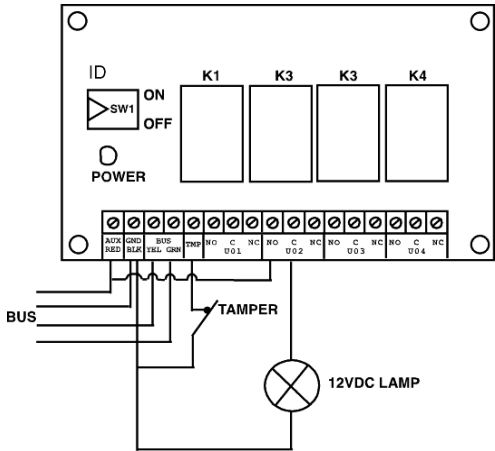

Figure 3-4: Utility Output Module UO4 (Showing an Example of UO4 Wiring)
- a. UO4 – Relays (see Figure 2-8 and Figure 3-4)